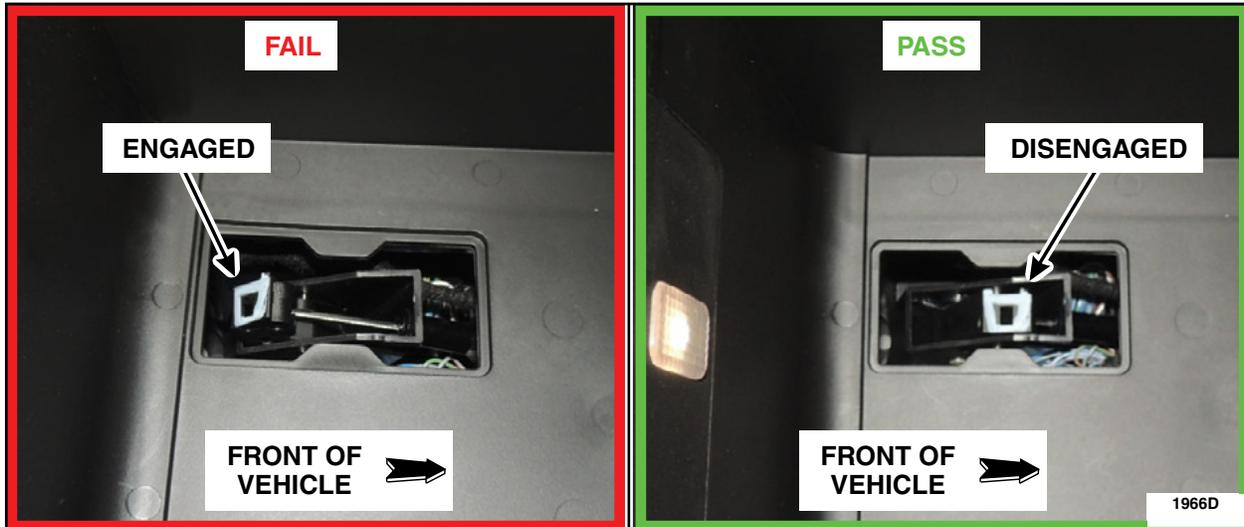

FIGURE 4
5. Is the MPR lever engaged? See Figure 4.